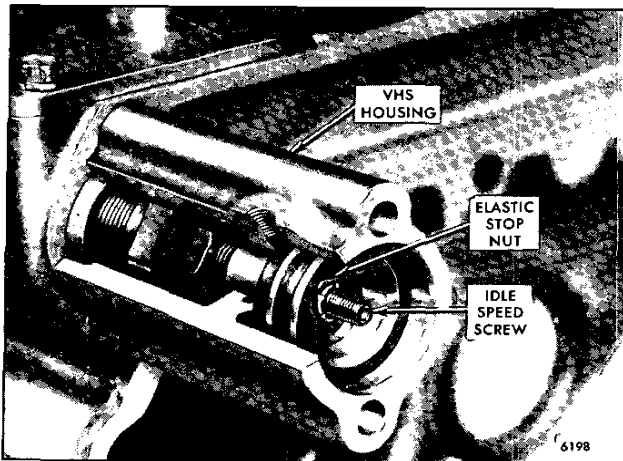

Fig. 2 – Adjust Elastic Stop Nut Using
- b. Adjust the elastic stop nut, while holding the idle screw stationary, until a slight drag is felt on the shim (Fig. 2). This adjustment is made easily with Tool J 28598-A.